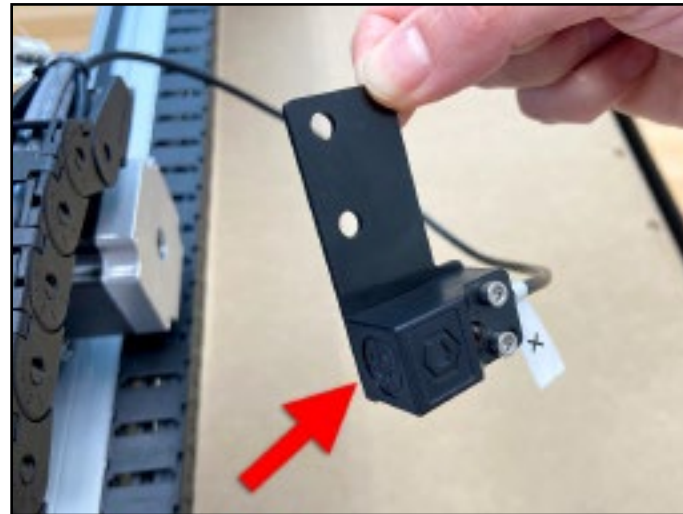

Figure 7-5
2. Align the switch and plate, with the switch facing left and the plate's two PEM nuts in the **BOTTOM-RIGHT** corner. Flush the face of the switch with the edge of the plate. See **Figure 7-5**.
3. Use the 2.5mm hex key and two (2) M3x18mm socket head cap screws to attach the switch to the plate. Make sure the front edge of the proximity switch and plate stay flush. See **Figure 7-5**.